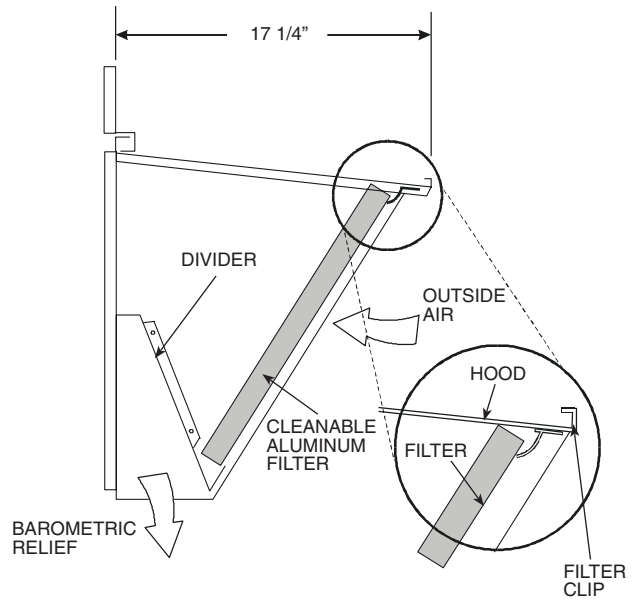

Fig. 22 — Filter Installation
6. Insert the hood divider between the hood sides. See Fig. 22. Secure hood divider with 2 screws on each hood side. The hood divider is also used as the bottom filter rack for the aluminum filter.
7. Open the filter clips which are located underneath the hood top. Insert the aluminum filter into the bottom filter rack (hood divider). Push the filter into position past the open filter clips. Close the filter clips to lock the filter into place. See Fig. 22.